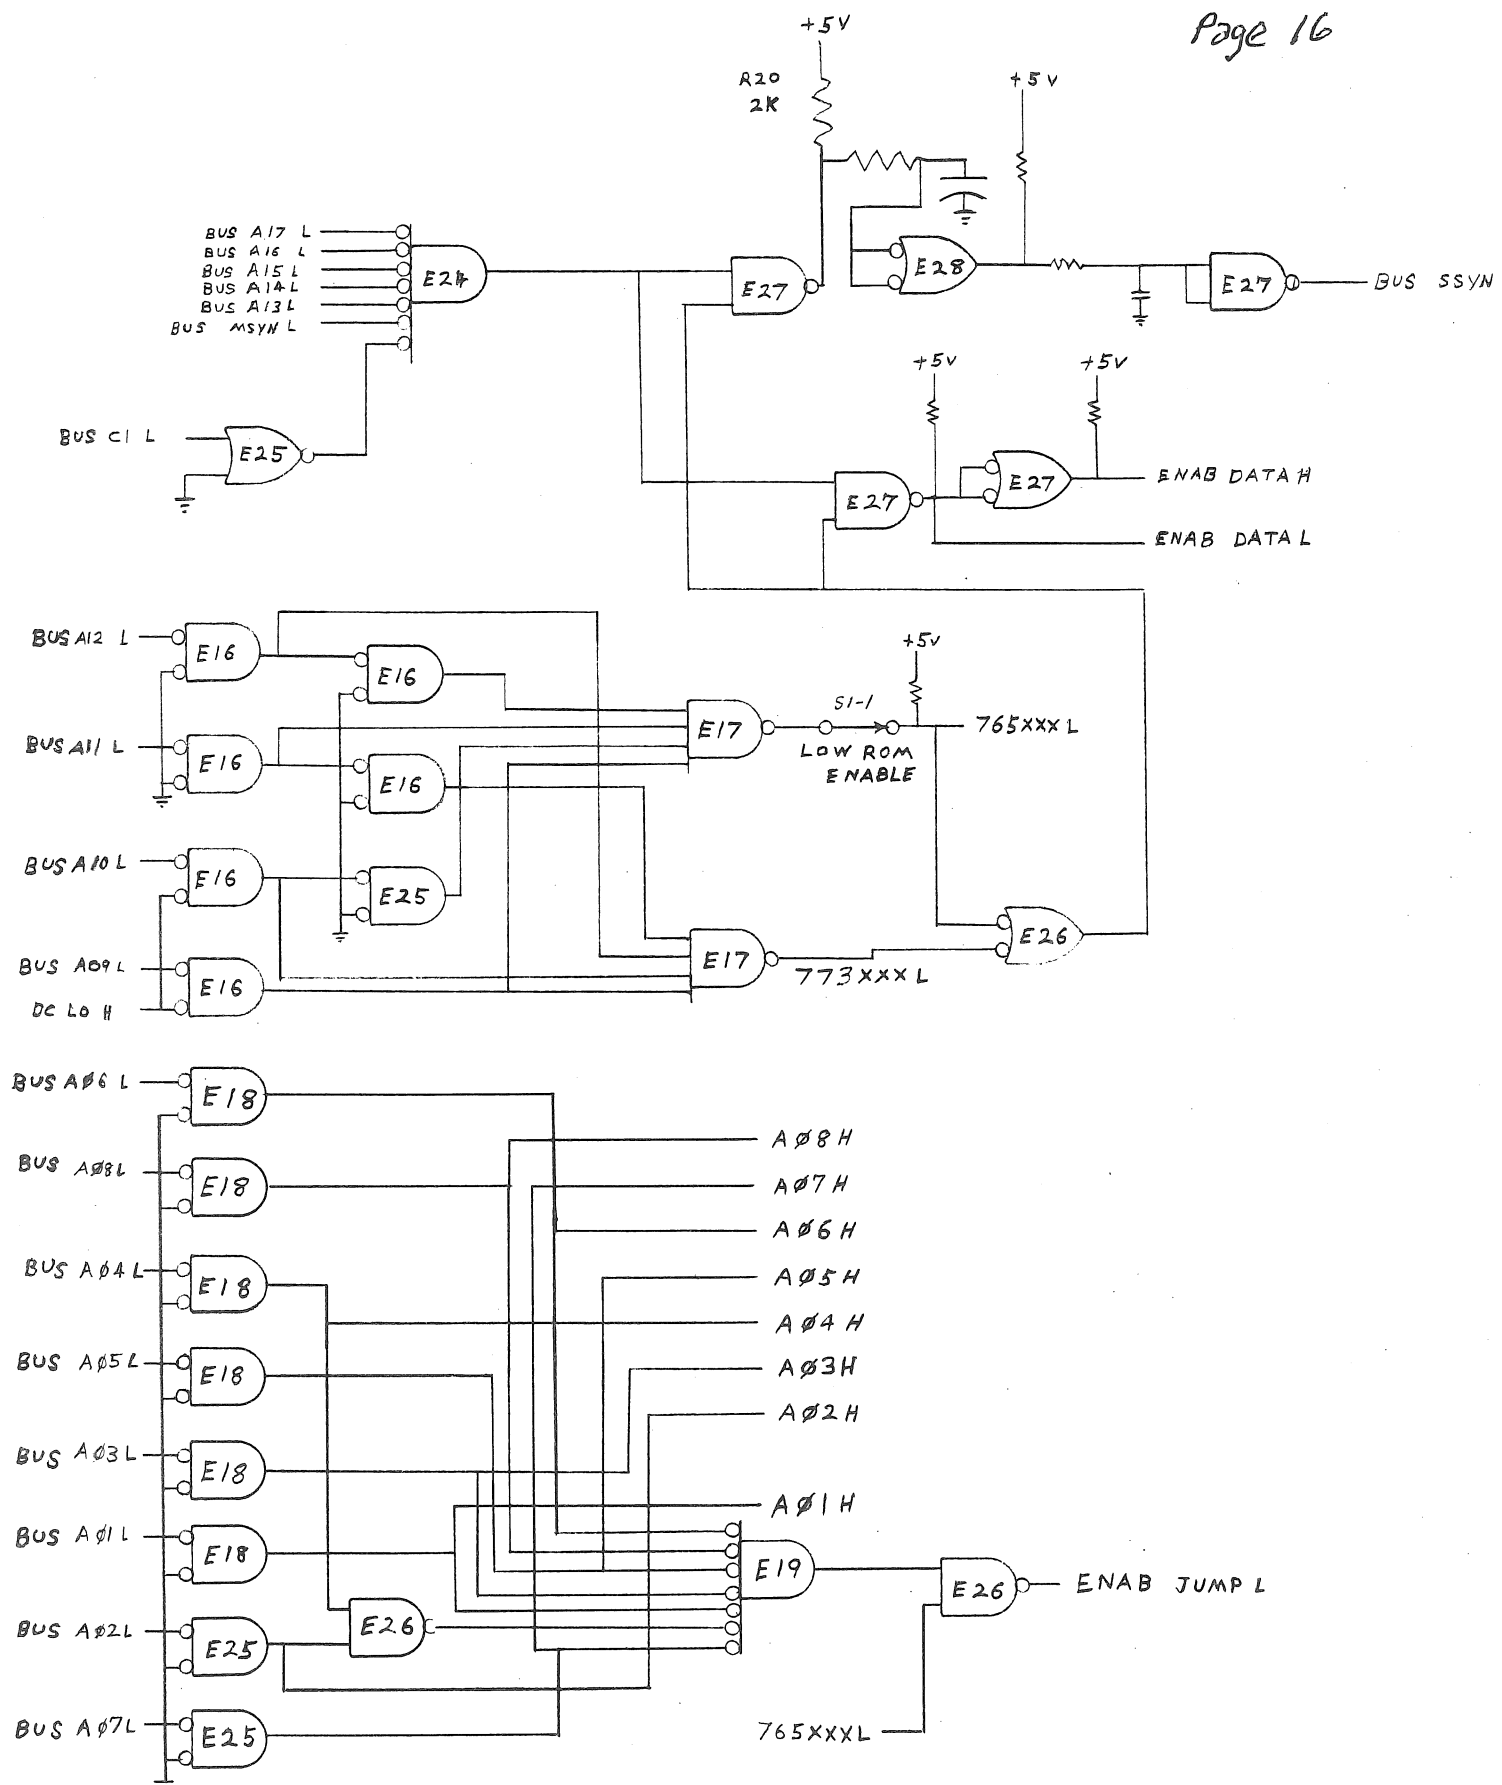

FIG. 9
Figure 9 shows the complete UNIBUS address detection logic on the M9301. The purpose of this circuitry is to detect UNIBUS addresses within the address space of the M9301 (773000(8) - 773777(8) and 765000(8) - 765777(8)), and recognize the specific addresses 773024(8) and 773026(8) for the power up circuit previously described in Sections 3.4, and 3.5.
The circuitry show in Figure 9 determines when the M9301 ROM address space is being accessed. Upon receiving a recognized UNIBUS address, and BUS MSYN, the ROM data outputs are enabled onto the UNIBUS data lines (BUS D00 L - BUS D15 L) and BUS SSYN L is enabled 200 ns later. Conditions which must be met before enabling the ROM data and returning BUS SSYN are as follows:
LOW ROM ENABLE switch (s1-1) shown in Figure 9 allows the user to disable the M9301 detection of UNIBUS addresses 765000 thru 765777. These addresses would normally represent the lower 256 words of the M9301 memory space. Disabling the detection of these addresses S1-1 is set to OFF position) becomes essential when that memory space is being used by other peripheral devices in the system. For M9301 modules containing standard DEC programs, users should note what program features will be eliminated by disabling M9301 address locations 765000 thru 765777.
Logic shown in the lower half of Figure 9 performs two functions. First it receives the nine address inputs for the M9301 ROM memory (765XXXL and A01H thru A08H). Second it detects the UNIBUS address 773024 and generates the offset switch enable signal (See Section 3.9) ENAB JUMP L.
All four ROM outputs are always enabled, so any change in address inputs will result in a change in the UNIBUS data lines when the ENAB DATA signals in Figure 9 are enabled. For further information on M9301 compatible ROMS, CONSULT THE ROM Specifications shown in the Appendix.